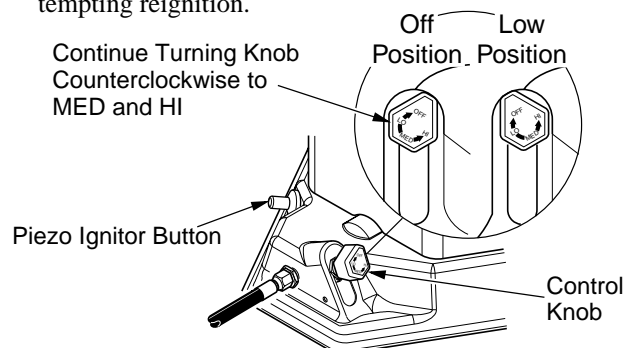

Figure 4 - Control Knob and Piezo Ignitor Button Locations
5. Slightly depress and turn control knob counterclockwise to the LOW position (see Figure 4).
- When burner remains lit, set heater at the desired heat level by slightly depressing the control knob and turning it counterclockwise to the MED or HIGH settings (see Figure 4, page 4).